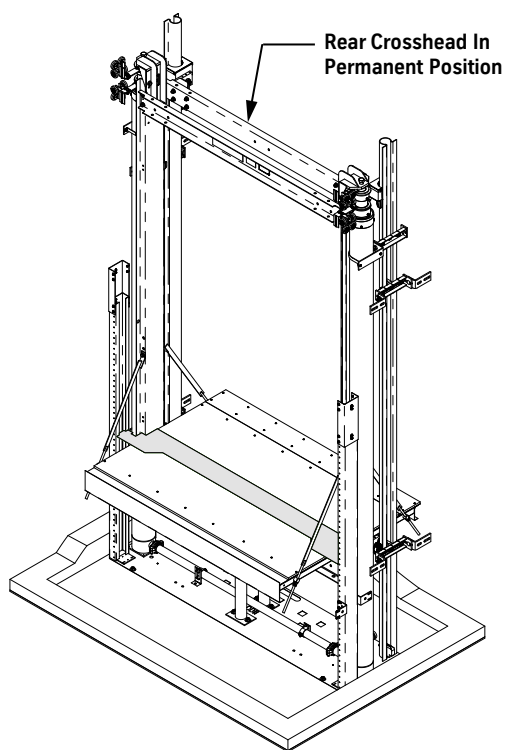

Figure 73 - Rear Crosshead Permanent Position
1. With the car at the first landing, remove the rear crosshead channel from the stiles and raise it up to its permanent location at the top of the stiles. See Figure 73.